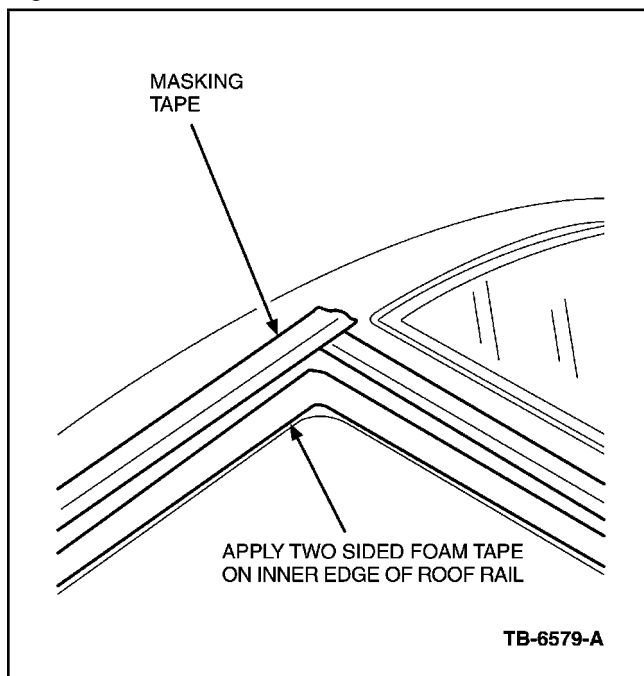

Figure 4 - Article 02-6-4
10. Apply 12.7 mm x 1.14 mm (1/2" x 0.045 ") double-sided foam tape such as 3M p/n 06380 around the roof rail perimeter, beginning at the middle rear of the vehicle. Use a continuous piece, and ease the tape by pulling a little around the corners, as shown in Figure 4. Do not use thicker tape, as this is difficult to ease around the corners. Remove the backing, and apply a second piece on top of the first piece, staggering the joints. Leave the backing on the second layer of tape at this time. This will serve as a dam for the urethane adhesive. Press down on the tape, all the way around the perimeter, to ensure the tape has completely bonded to the rail.